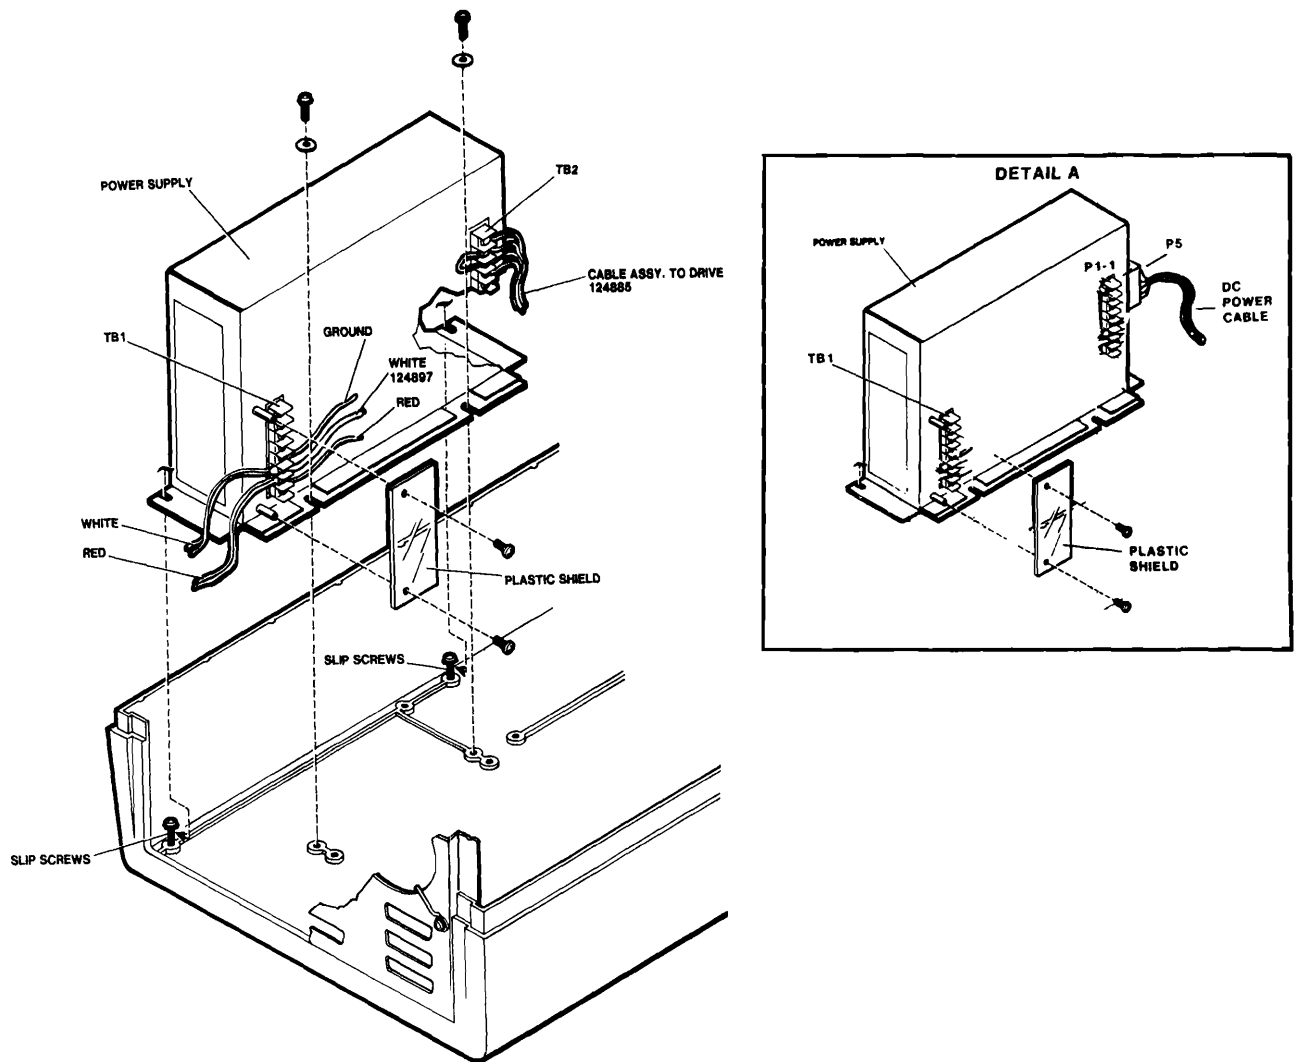

Figure 4-9. Power Supply Removal
Procedures for removing the level 1 or level 3 power supply are essentially the same. Note that for the level 3 supply there is no capacitor on the the mounting bracket to disconnect. Also, the dc power cable assembly P5 plugs directly into the level 3 power supply at P1 (located on the circuit breaker end of the supply) rather than to the power supply cable assembly jumper J5 on the level 1 power supply. Refer to figure 4-9 and detail A and proceed as follows:
3. Disconnect the wire assemblies at TB1 noting wire orientation for proper reassembly (see figure 4-9).
1. Guide the power supply frame into the chassis (see figure 4-9) between the fan and circuit breaker. Align the frame with the slip screws and tighten.